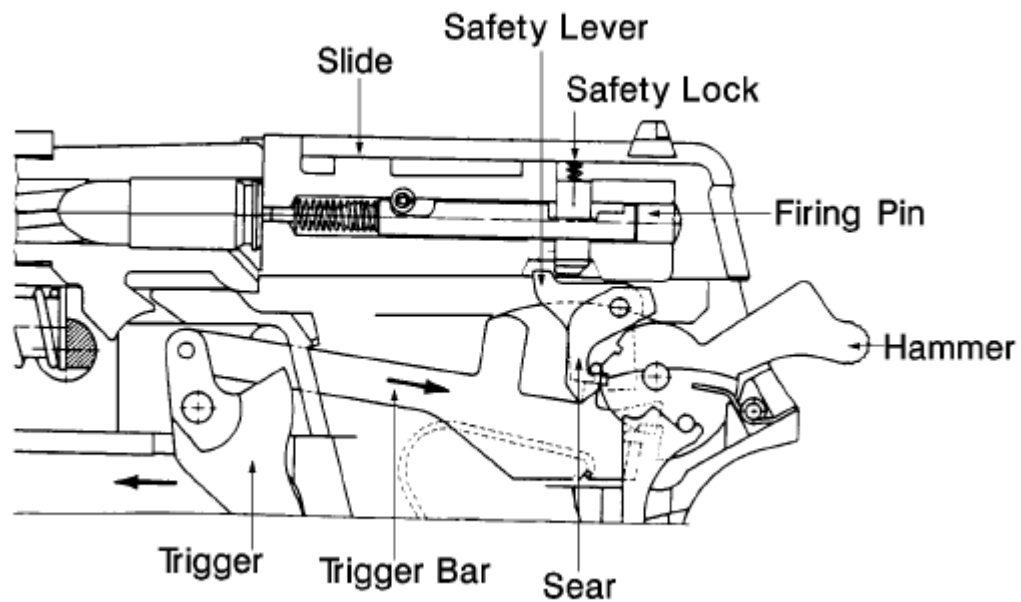

Figure 7 - Disconnector Operation
- b. Disconnecter Operation. (See Figure 7) Upon firing, the blowback action forces the slide and barrel assembly rearward. The slide disconnects the trigger bar from the safety lever, allowing the firing pin and firing pin safety lock to reset to the locked position, as well as releasing the sear. The sear returns to its initial position and holds the hammer as the slide goes forward.